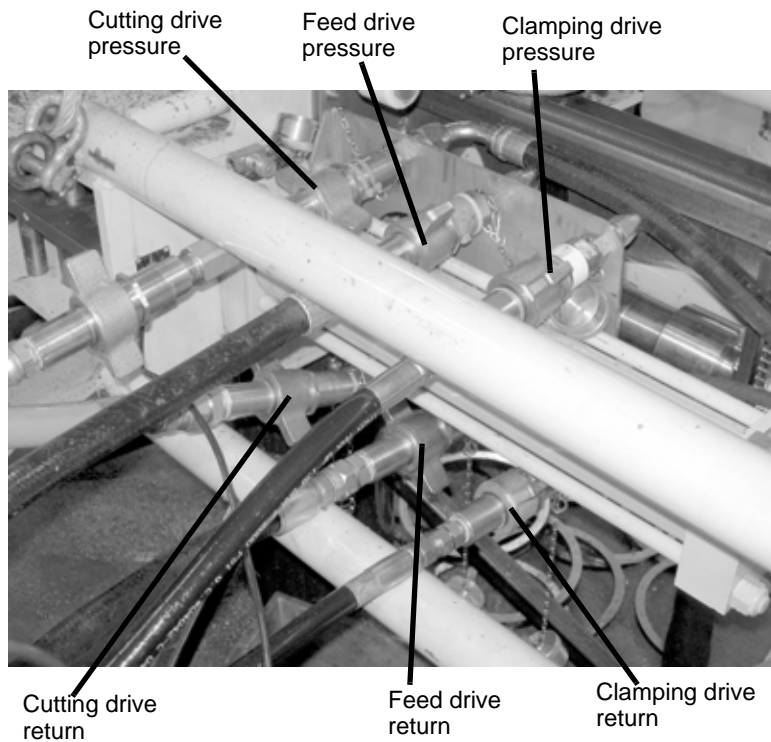

Figure 5-7. Connect the hoses from the TCU to the saw as shown.
6. Connect the hoses from the TCU or hose reel to the fittings on the saw bulkhead as shown in Figure 5-7.